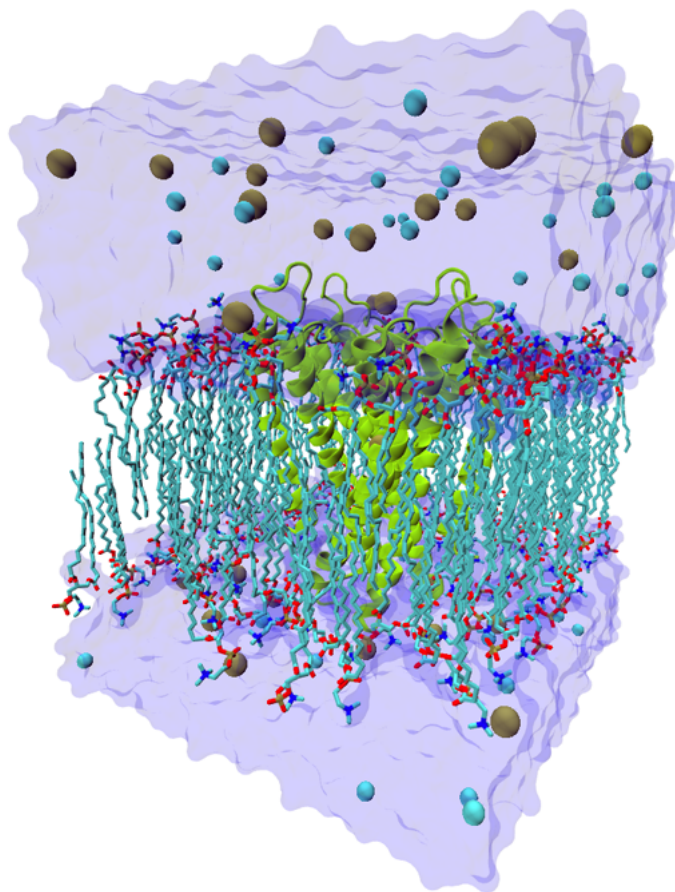

Figure 10: Final simulation system including the KcsA channel, a POPC membrane, water, and ions.
- 8 Load the output files of autoionize (kcsa_popcwi.psf and kcsa_popcwi.pdb) into VMD and check that the ions are really there and that the system is neutral (Fig. 10).